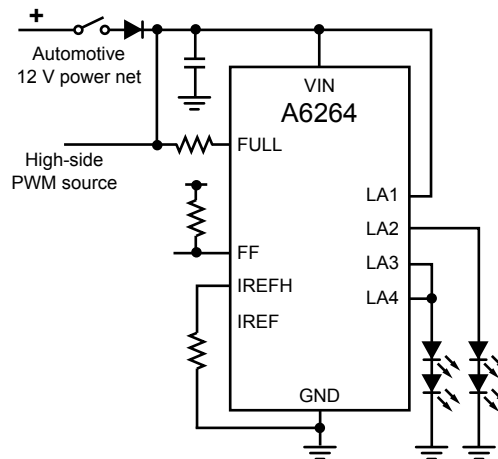

Figure 12. LED outputs options.
- Figure 12 shows on combination of outputs tied together.